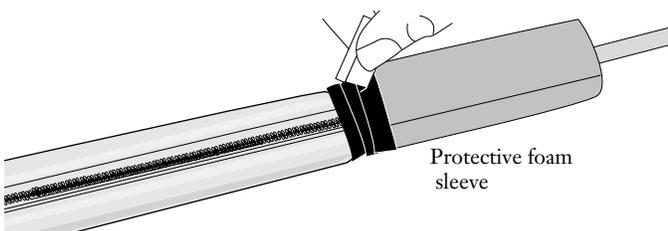

Figure 4
- Carefully use a razor blade to cut the wraps of electrical tape which secure the protective foam sleeve to the cable-end of the pulling sleeve (Figure 4). **USE CAUTION TO PREVENT DAMAGE TO THE SLEEVE.**